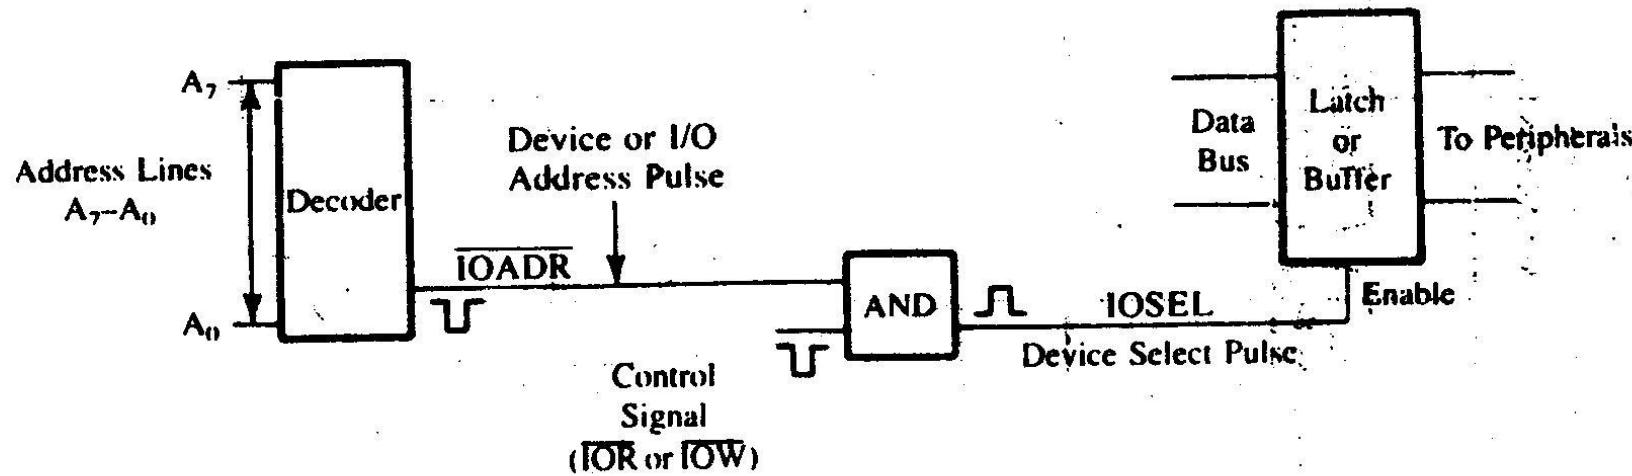
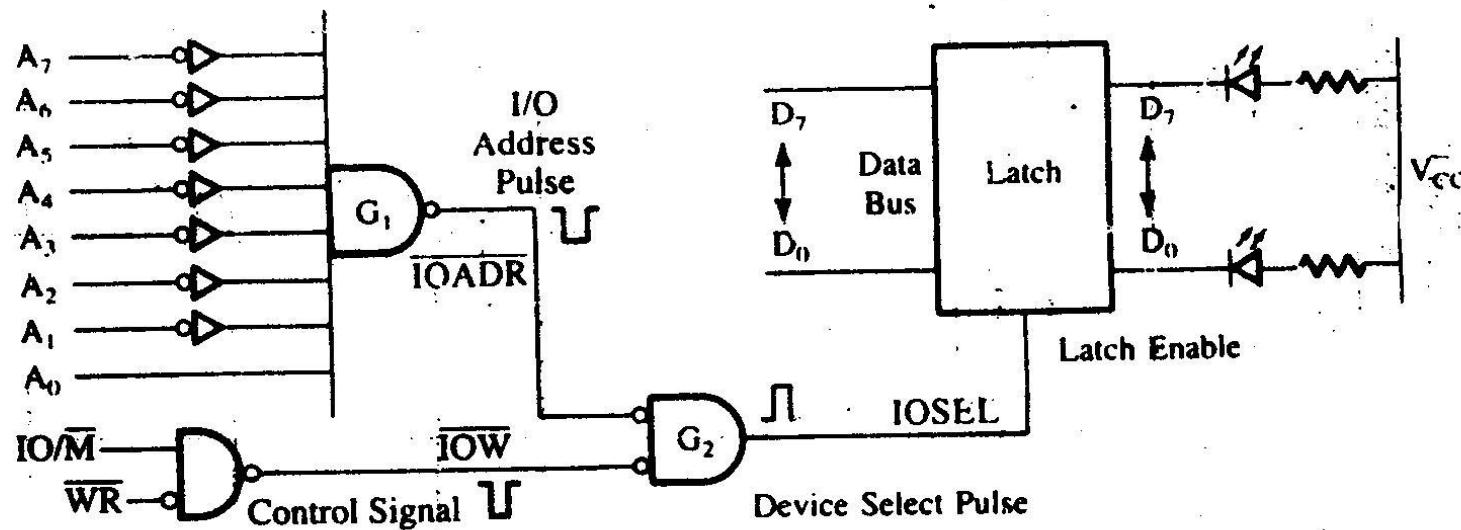
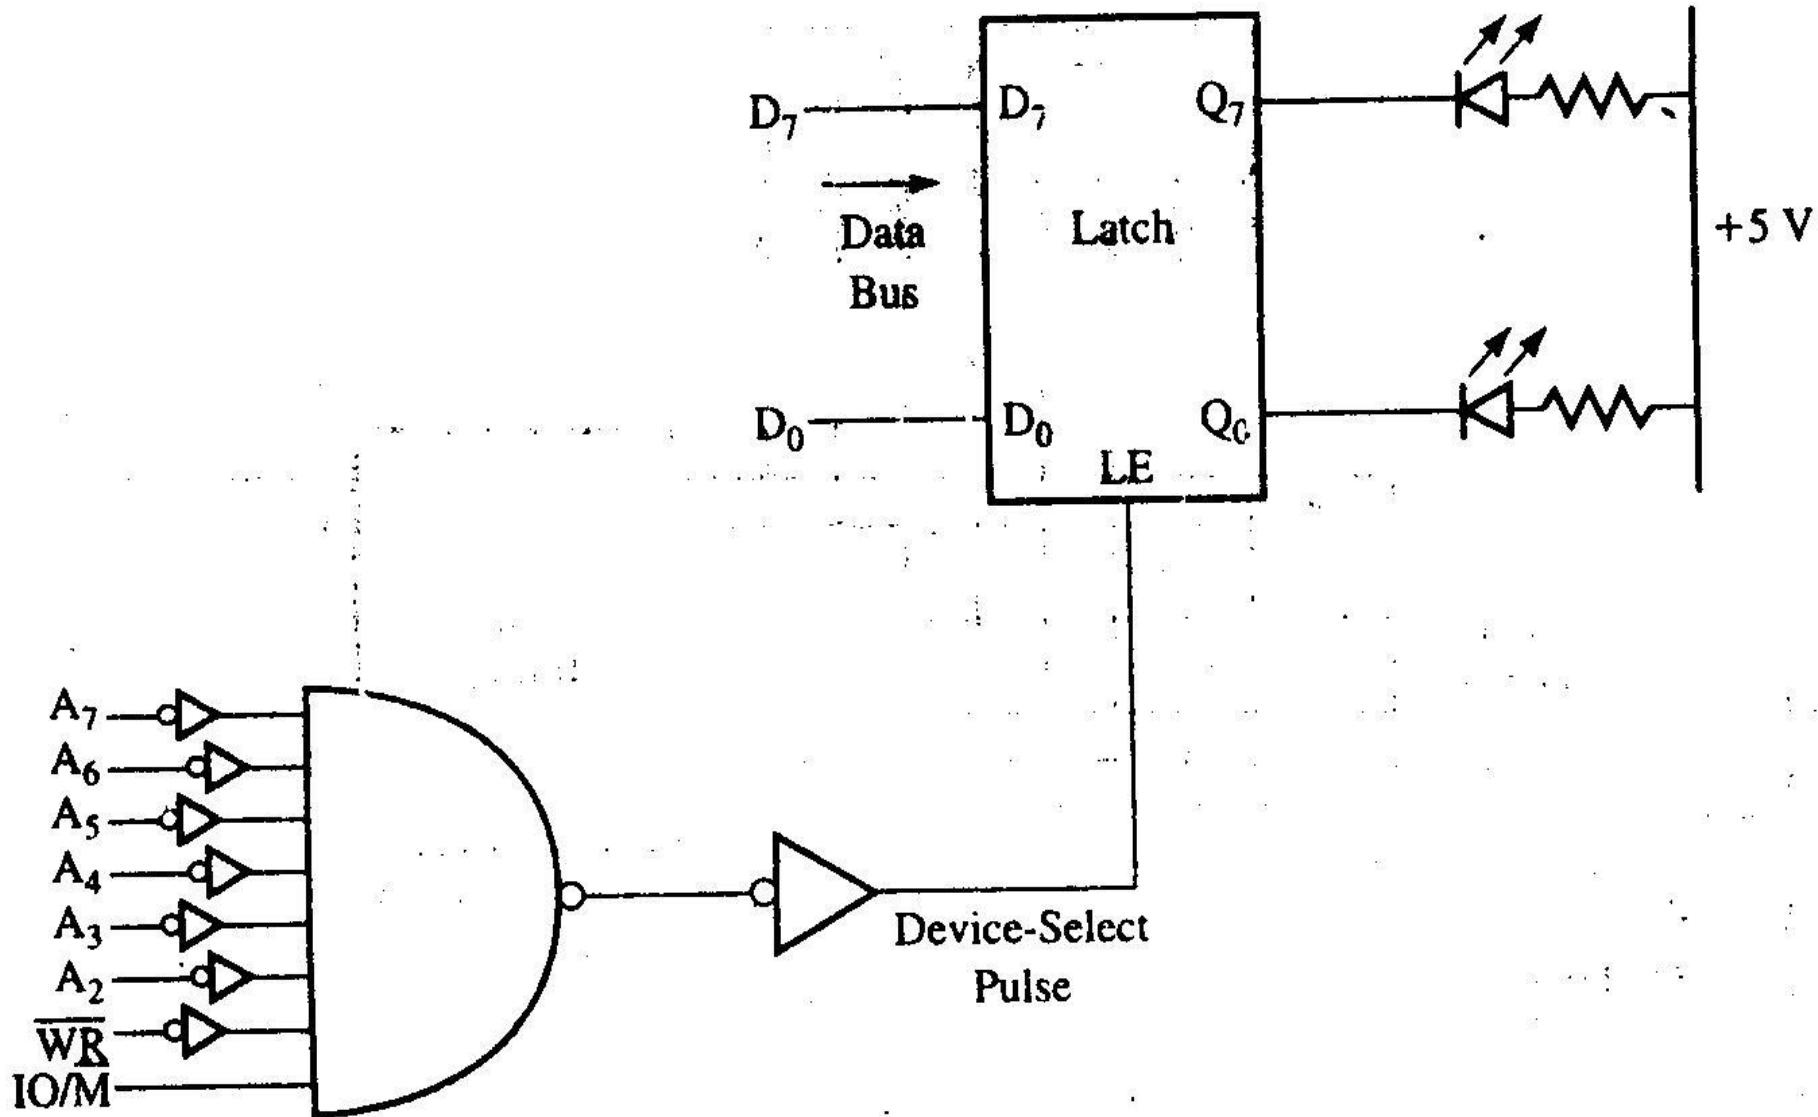
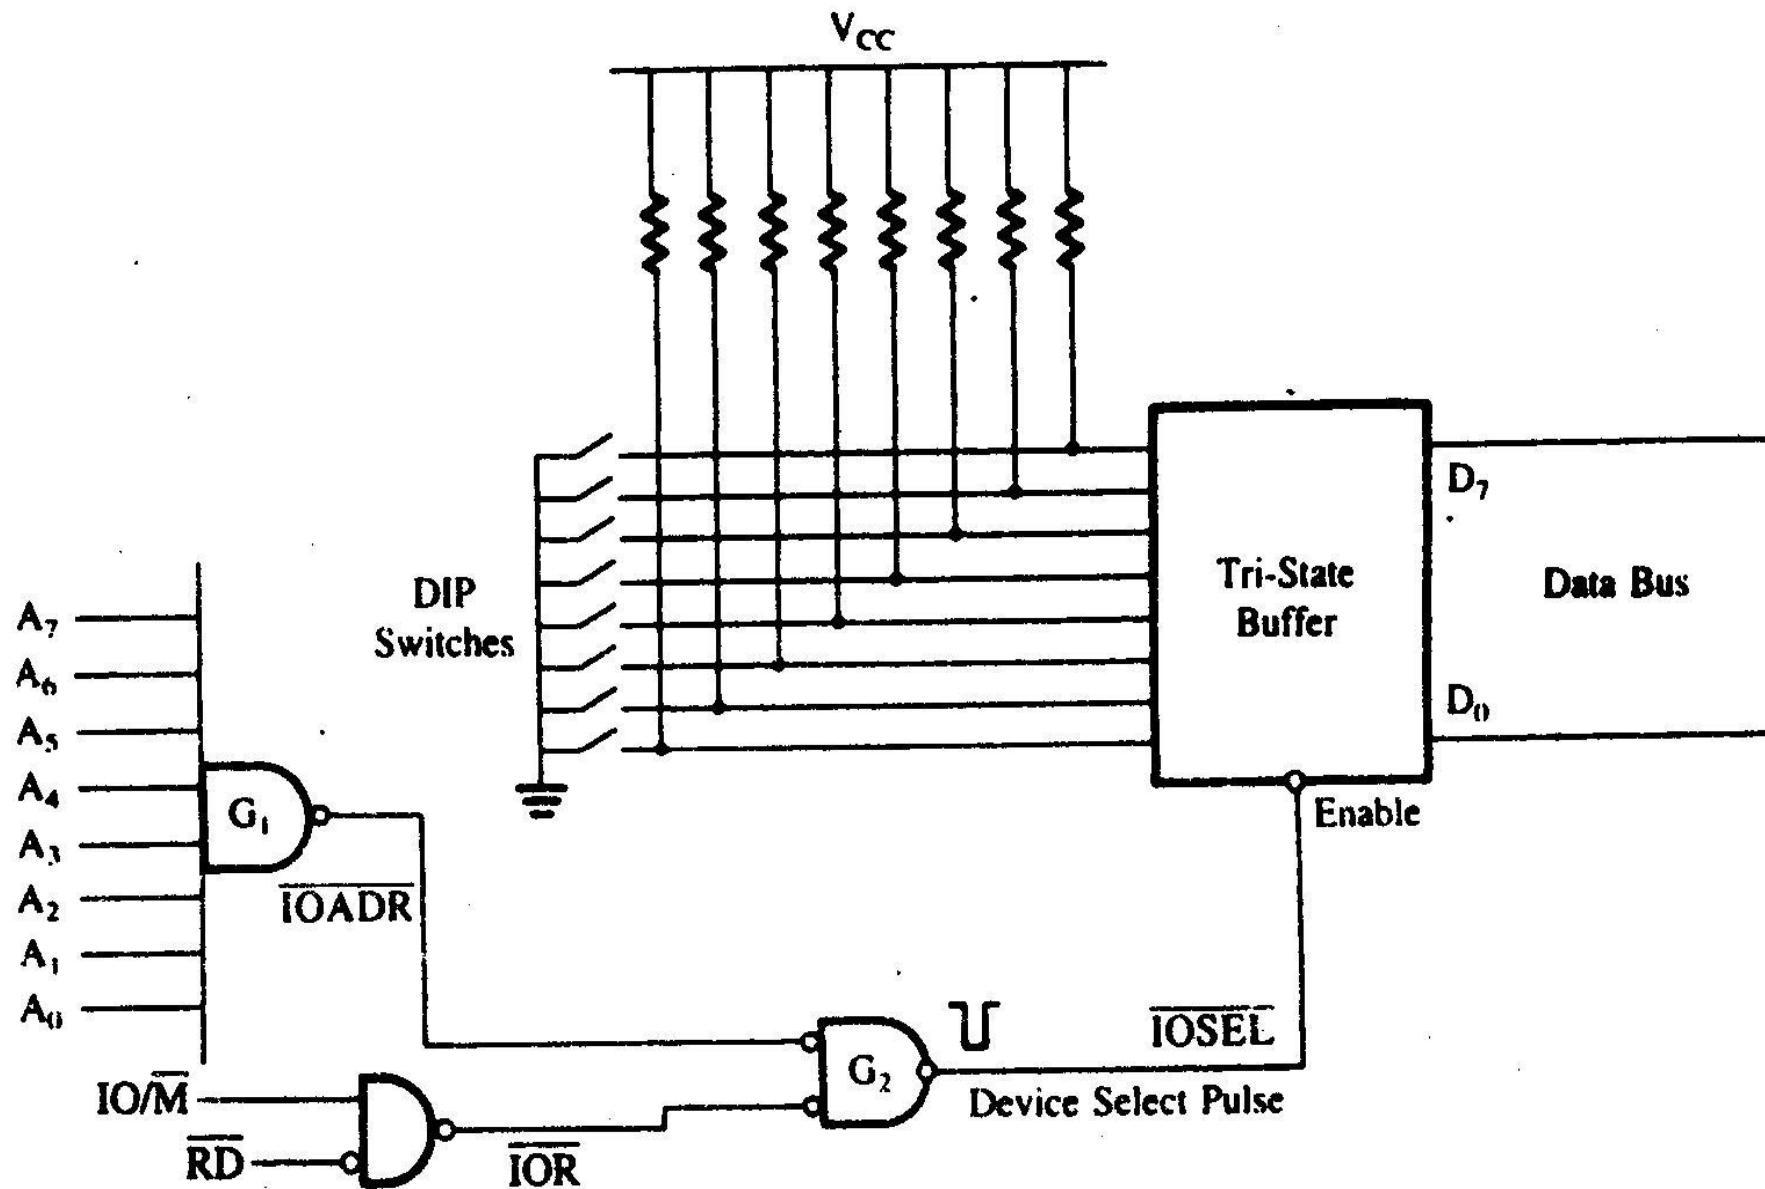

FIGURE 4.3
FIGURE 4.4
FIGURE 4.5
FIGURE 4.6
Figure 4.3 shows a block diagram and Figure 4.4 shows an example of above solution.
- In Figure 4.4, all eight lines are decoded to generate one unique output pulse; the device will be selected only with the address, 01H. This is called **absolute decoding** and good design practice.
- However, to minimize the cost, the output port can be selected by decoding some of the address lines ,as shown in Figure 4.5; this is called **partial decoding**. As a result, the device has multiple addresses.
Figure 4.5 is similar to Figure 4.4 except that the address lines A0 and A1 are not connected, and they are replaced by IO/M and WR signals. Because the address lines A0 and A1 are at don't care logic level, they can be assumed 0 or 1. Thus this output port (latch) can be accessed by the addresses 00H, 01H, 02H, and 03H.
Figure 4.6, shows an example of interfacing an 8-key input port. The circuit for the input port in Figure 4.6 differs from the output port in Figure 4.4 as follows:
3. In Figure 4.6, data flow from the keys to the accumulator; on the other hand, in Figure 4.4, data flow from the accumulator to the LEDs.